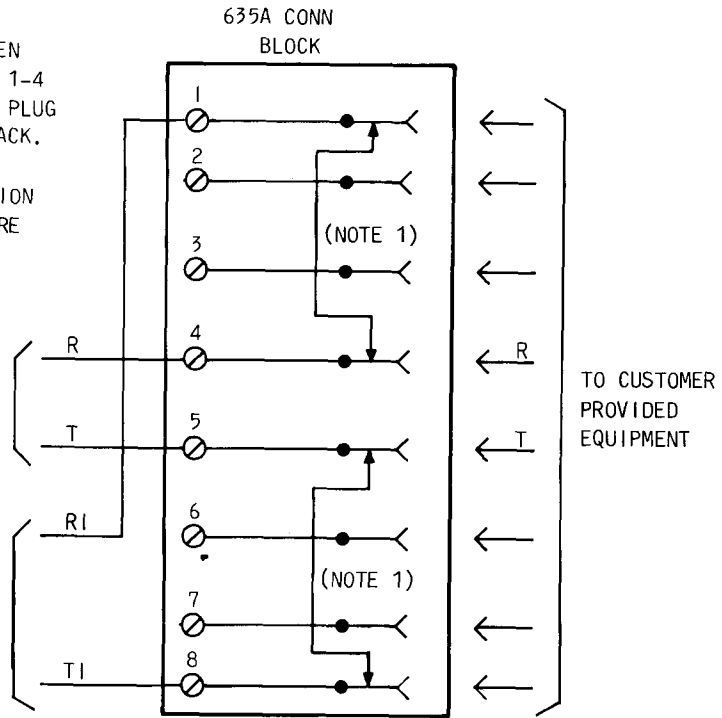

Fig. 2—Connections for USOC RJ32X
**2.02 USOC RJ32X:** This arrangement (Fig. 2) also provides a series tip and ring connection through the 635A connecting block but is used where the CPE is connected in series with a single station, such as an automatic dialer.